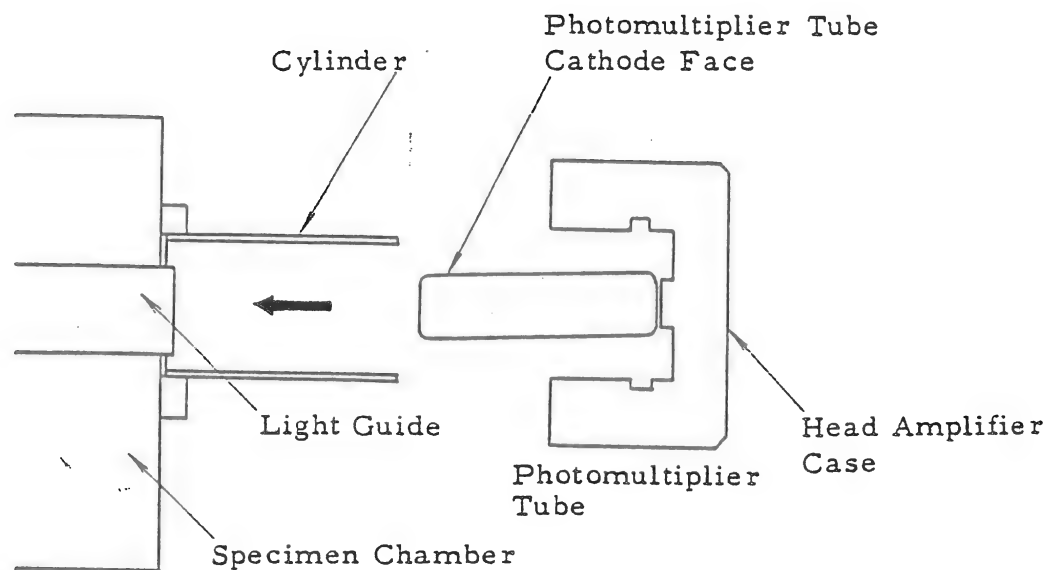

Fig. 3-12 Installation of Head Amplifier
3-3-10 Installation of Head Amplifier (See Fig. 3-12.)
- (1) Insert the photomultiplier tube into the head amplifier case.
- (2) Clean the cathode face of the photomultiplier tube using gauze.
- (3) Apply a drop of silicone oil for photomultiplier tube to the center of the cathode face of the photomultiplier tube.
- (4) Insert the head amplifier into the cylinder, and lightly turn the head amplifier clockwise and counterclockwise two or three times after allowing the cathode face of the photomultiplier tube to make contact with the light guide face. See Fig. 3-12.